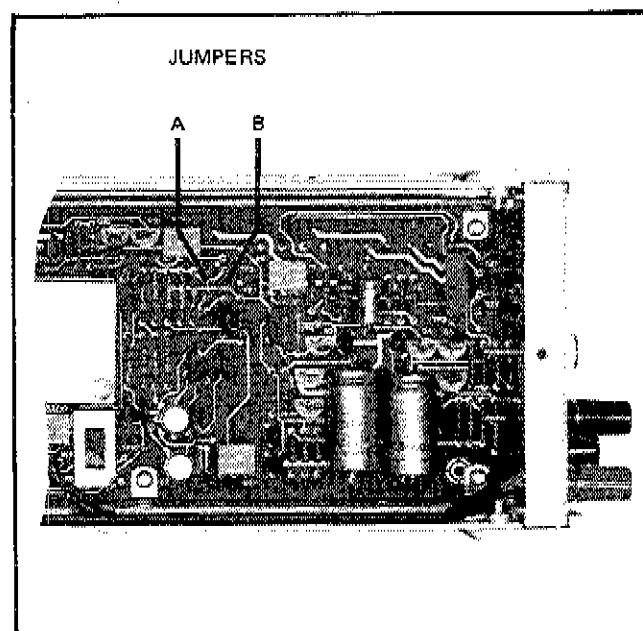

Figure 4-8.  $V_{REF}$  JUMPER LOCATIONS
- Locate jumpers A and B using Figure 4-8 and reconnect any cut jumpers.